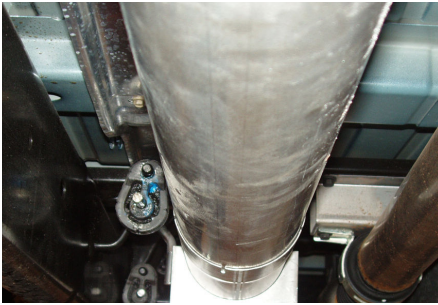

Figure 3
2. Install the **Mid Pipe** onto the **Down Pipe** and then the **Extension Pipe** onto the **Mid Pipe**. The combination of the **Mid Pipe** and **Extension Pipe** provides the required length to fit a Quad Cab Long Bed truck or Mega Cab. These pipes will have to be cut to fit all other vehicles. **Installation Tip:** Temporarily install the **Muffler** and **Tail Pipe** using the factory rubber insulators and the **5" Hanger Clamps** (8) & (9). **Refer to Illustration.** Measure from the **Muffler** to the **Mid Pipe** to determine the length required. Cut the pipe to the required length. **Refer to Figure 3.**